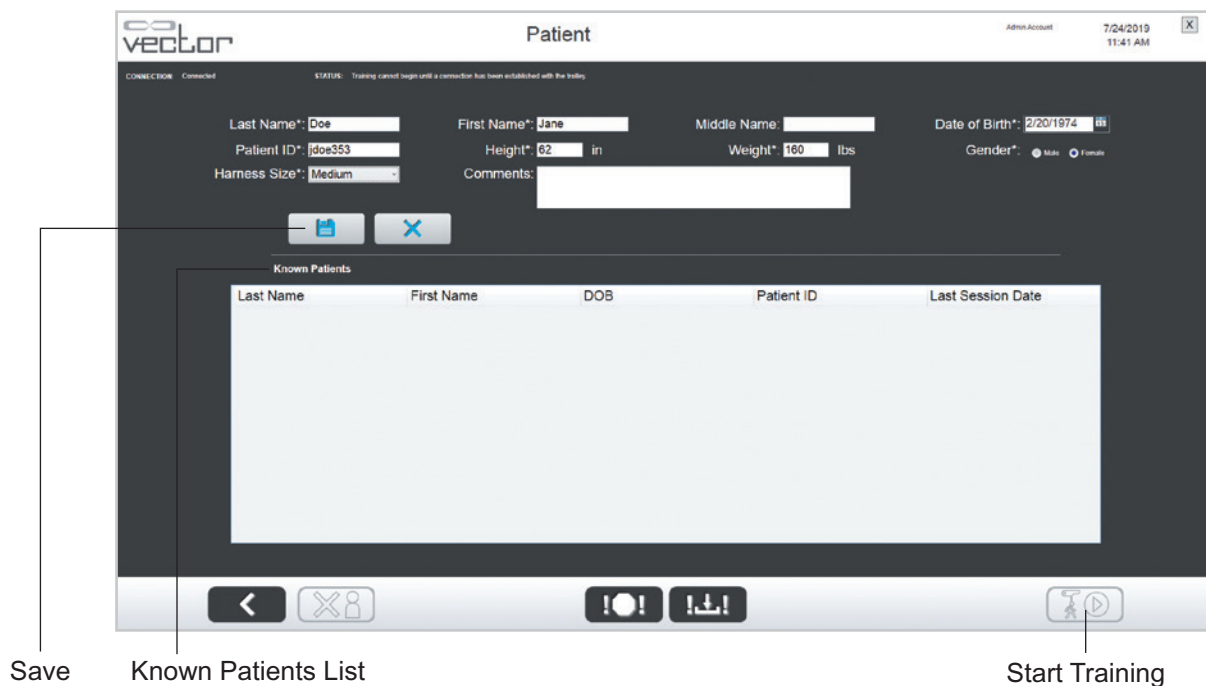

Figure 5-1: Patient Menu Screen
1. From the Main Menu screen, press the Patient Training Menu button. This opens the Patient Menu screen. See Figure 5-1.
2. Fill in the required patient data fields. Some data fields will have a drop-down menu. See Figure 5-1. Required fields are marked with an asterisk (*). Verify that all information is correct.
3. Press the Save button to save the data and create a new patient account. See Figure 5-1. The entries cannot be saved until all of the required fields are filled.